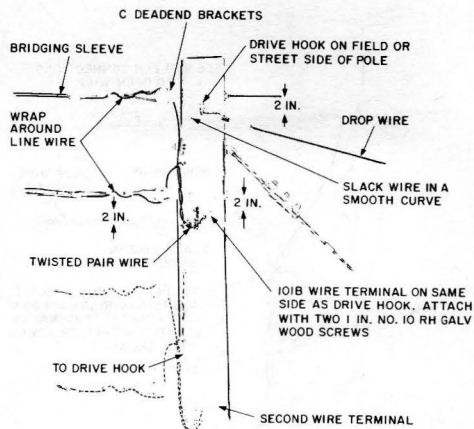

Fig. 6—Where Lines are Terminated on Deadend Brackets Attached to Face or Back of a Pole
- 4.15** Poles equipped with deadend brackets (Fig. 6).